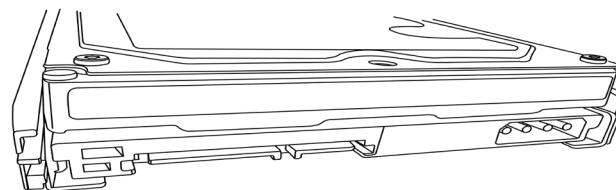

Figure 1
1. Place the empty drive carrier on a table or other stable platform. Orient the drive so that the SATA contacts and power connector will face the rear of the enclosure (Figure 1). Place the drive in the carrier so that the screw holes are aligned.